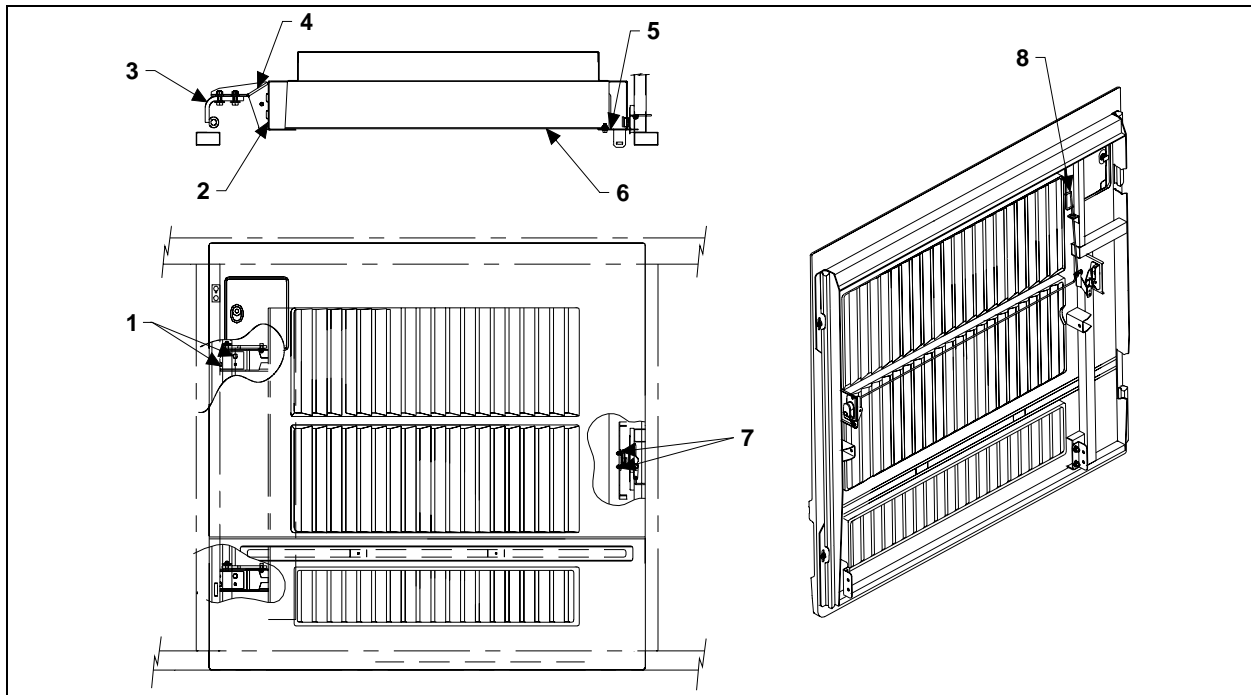

FIGURE 70: CONDENSER DOOR
2. Loosen the nuts (1, Fig. 70) holding the hinge (3, Fig. 70) to hinge attachment (4, Fig. 70). Loosening nuts (1, Fig. 70) allows the condenser assembly to be shifted "LEFT or RIGHT" and "UP or DOWN".
5. Loosen bracket nuts holding the panel to condenser. Panel (6, Fig. 70) may be shifted "IN or OUT", "LEFT or RIGHT" and "UP or DOWN".
6. Adjust condenser panel at brackets (2, Fig. 70) and (5, Fig. 70).